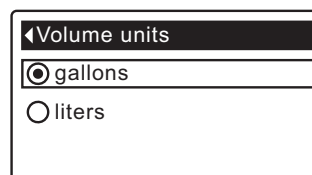

FIG. 49
5. Press the SELECT (O) button to display the Volume units menu (See Figure 49).
6. If the desired volume unit already has a black dot next to it (See Figure 49), go to Step 7. Otherwise, press the DOWN (▼) or UP (▲) buttons to scroll to the other volume unit, then press SELECT (O) to choose it.
7. Press the SELECT (O) button. The display will go back to the User preferences menu.